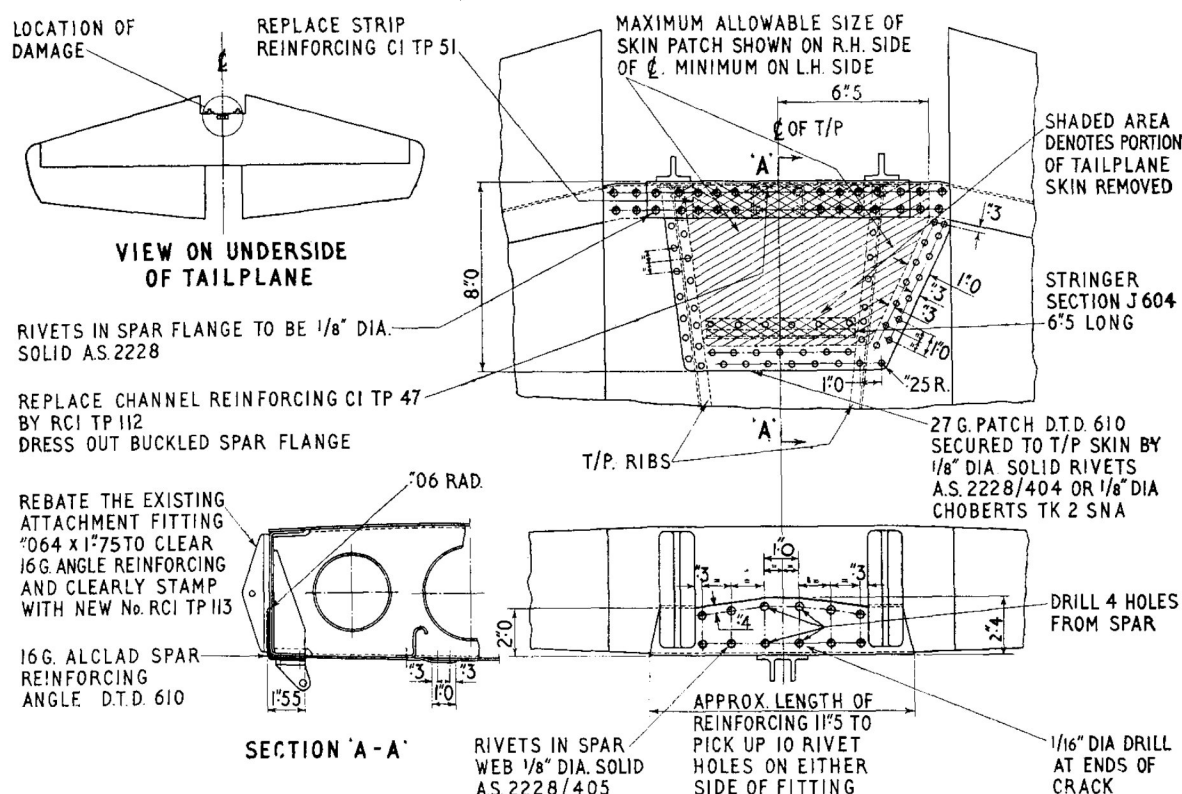

FIG. 1. METHOD OF REPAIR
- (1) Cut away skin where shown cross hatched on fig. 1.
- (2) Remove channel reinforcing from spar and unrevet 'V' brace from the ribs.
- (3) Dress out buckled flange of spar and inspect carefully for cracks or other damage; this may consist of a crack along the bend of the flange or tears at the bolt holes. Repairable damage must not exceed 2 in. on either side of the centre line of the tail-plane. All cracks must be drilled at extremities.
- (4) Remove tail-plane attachment brackets and modify the fitting as shown at the bottom left corner of fig. 1. Part number 'R.C1.TP.113' must be stamped upon the attachment fitting after this alteration.
- (5) Fit new channel reinforcement, R.C1